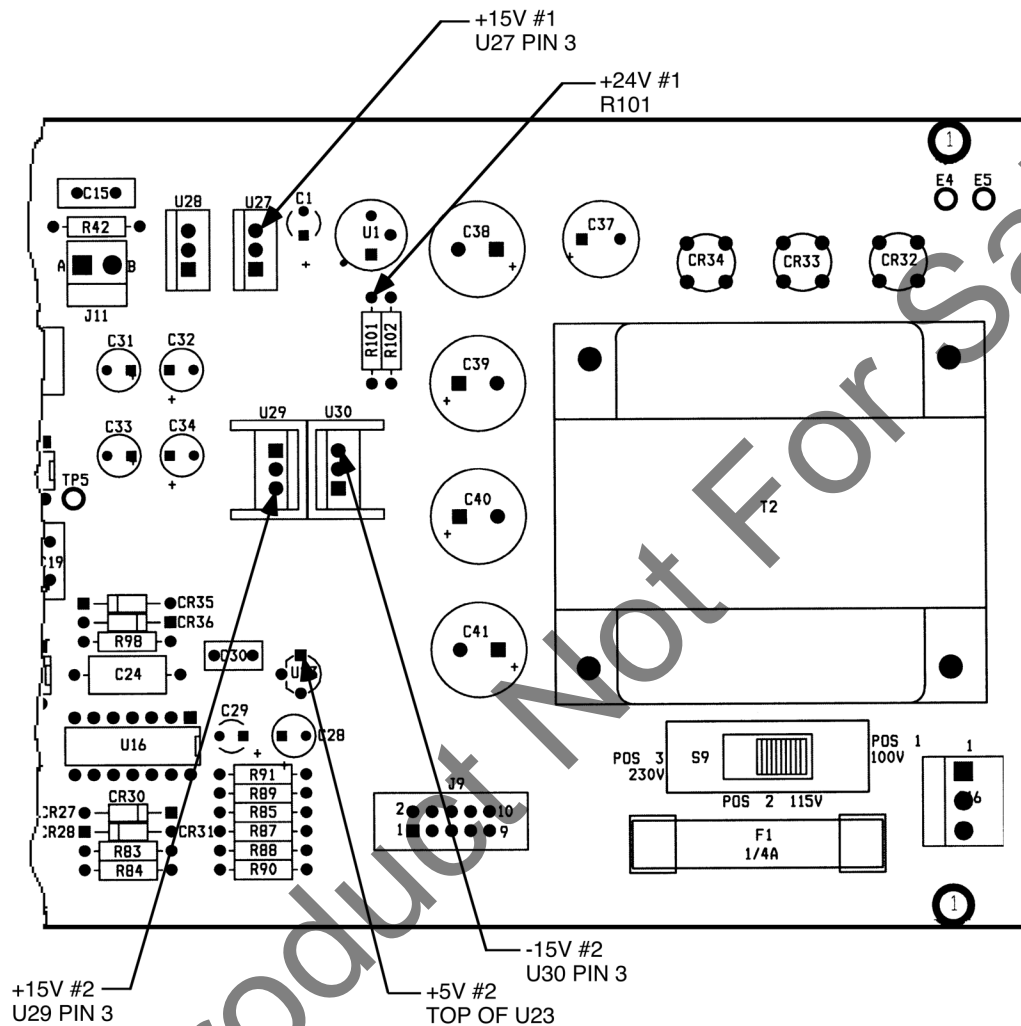

FIGURE 5-4: POWER SUPPLY TEST POINTS
- C. Insure the LINE INPUT SWITCH (S9), located on the main circuit board, is set to proper line voltage. (The unit is factory set for 110Vac). Apply power and check the regulated power supplies for the proper voltages (see Figure 5-4). This unit contains two independent isolated + 15 Volt supplies